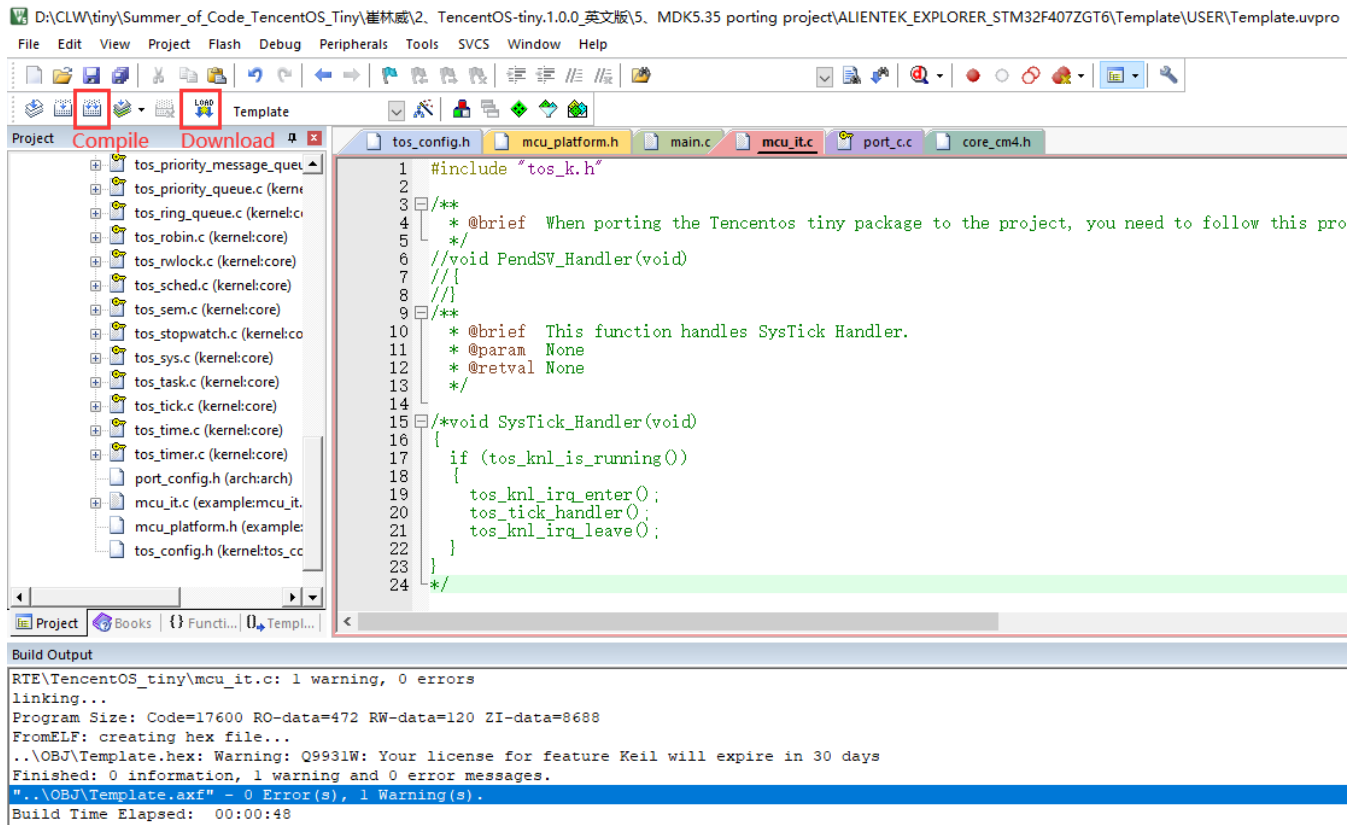
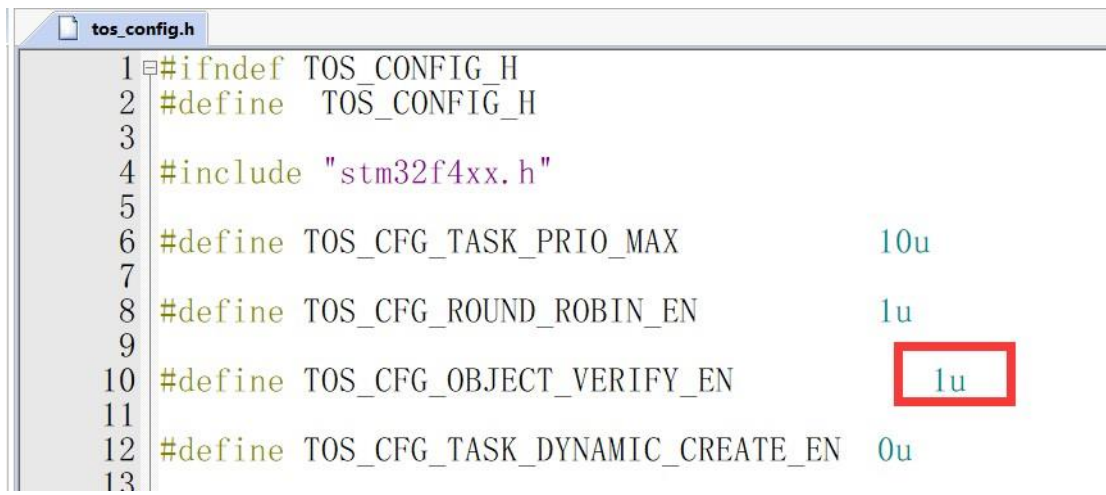

Figure 3.17 Compilation interface
Figure 3.18 Test interface
(5) Then click compile and use ST LINK-V2 to download the program to the microcontroller as shown in Figure 3.17. Then connect the serial port of the microcontroller to the computer and use XCOM serial communication assistant to view the result as shown in Figure 3.18.